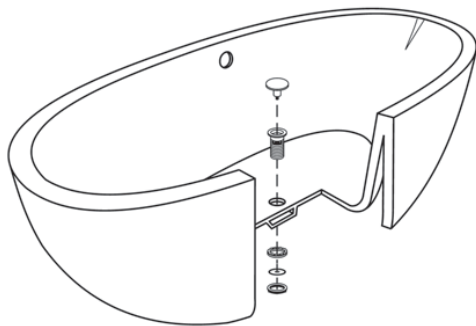

figure 10
9. Attach the Drain Body Nut on the Drain Body and tighten until the Nut and Washer have created a seal with the bottom of the bathtub. DO NOT OVERTIGHTEN (figure 10).